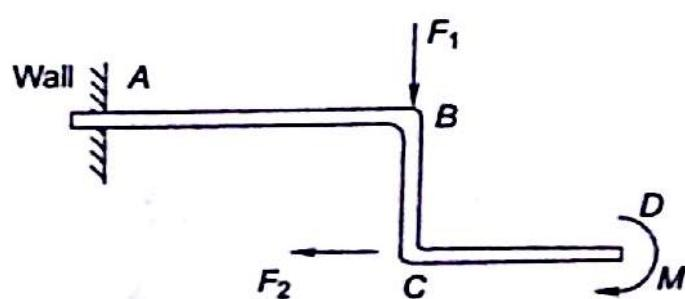

Fig. 3.55
- 3.2** A bent rod *ABCD*, is fixed on wall and subjected to forces F_1 , F_2 and a moment M as shown in Fig. 3.55. Draw free body diagram of bent rod.